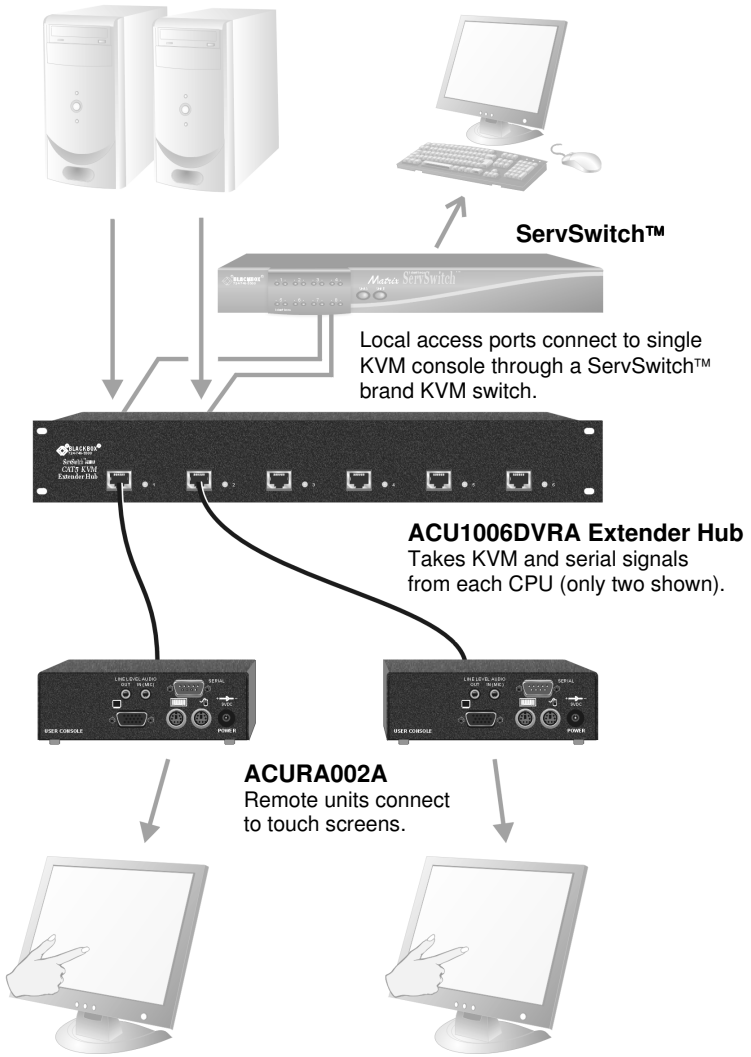

Figure 16 Touch screen network with local access to CPU through KVM switch
- Six remote serial touch screens with Local access through a KVM switch (Figure 16).